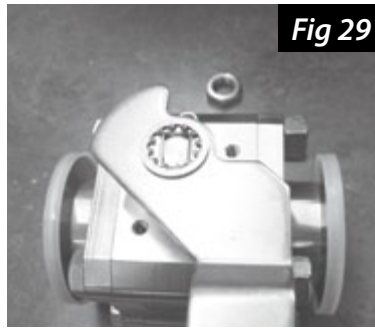

Fig 29
15. If your valve is equipped with a lock kit, skip to step 17. Otherwise, place the handle on the valve stem with a lock washer on top of the handle over the stem (Fig 29).
18. Place a lock washer onto the valve stem over the handle (Fig 29).